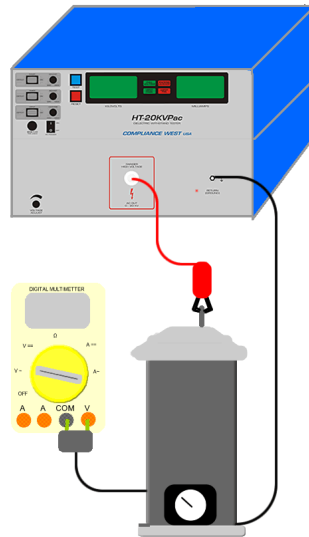

Figure 5-1. Voltage Measurement with 1000:1 High Voltage Probe
3. Set up a 1000:1 probe with and external volt meter has is shown on Figure 5-1.
2. Set up a 1000:1 probe with the volt meter has is shown on Figure 5-1.